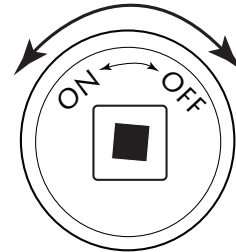

Fig. 6. Key Valve Face
1. Insert key into shut-off valve and secure into square end (see Figs 6 & 7).